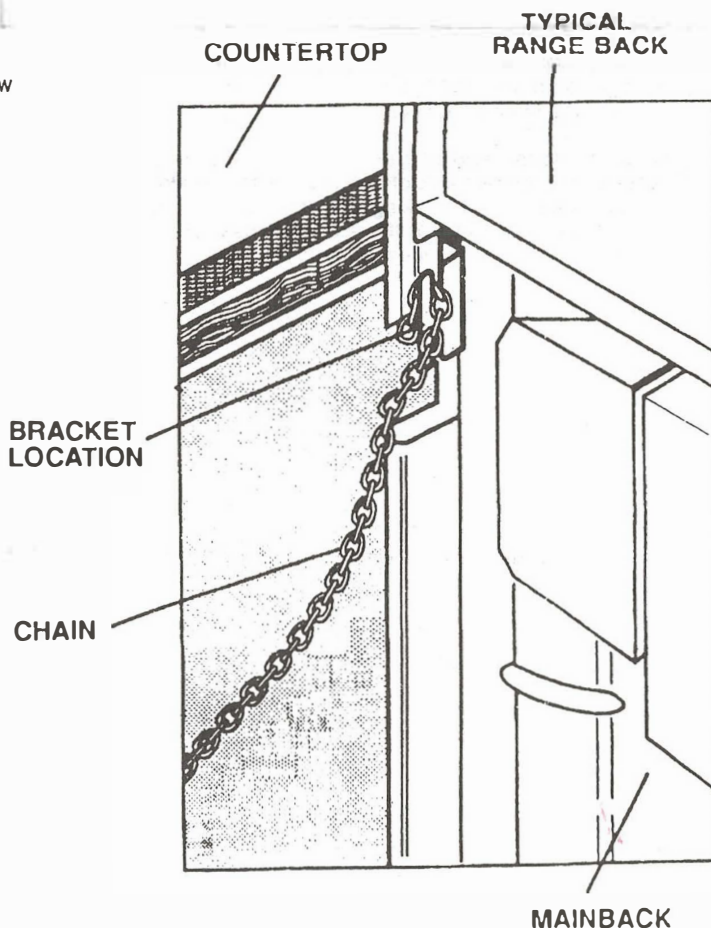

Fig. 1
- Remove the screw and reinstall it through the furnished bracket. The slot in the bracket should be vertical for the chain to be installed. (See Fig. 1.)